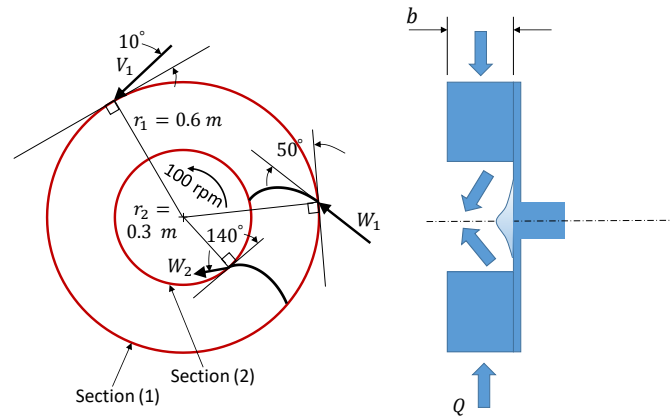

Figure 3. Question 4.
4. The inner radius of a turbine blade row is $r_2 = 0.3 \text{ m}$, and the outer radius is $r_1 = 0.6 \text{ m}$. The turbine wheel rotates at the rate of 100 rpm in the direction shown in the Fig. 3. The absolute velocity vector at the turbine rotor entrance makes an angle of 10° with the tangential direction. The inlet blade angle is 50° relative to the tangential direction. The blade outlet angle is 140° . The flowrate is $1.0 \text{ m}^3/\text{s}$ and the fluid is water. For the flow tangent to the rotor blade surface at inlet and outlet, determine an appropriate constant blade height, b , and the corresponding power available at the rotor shaft. (6p)